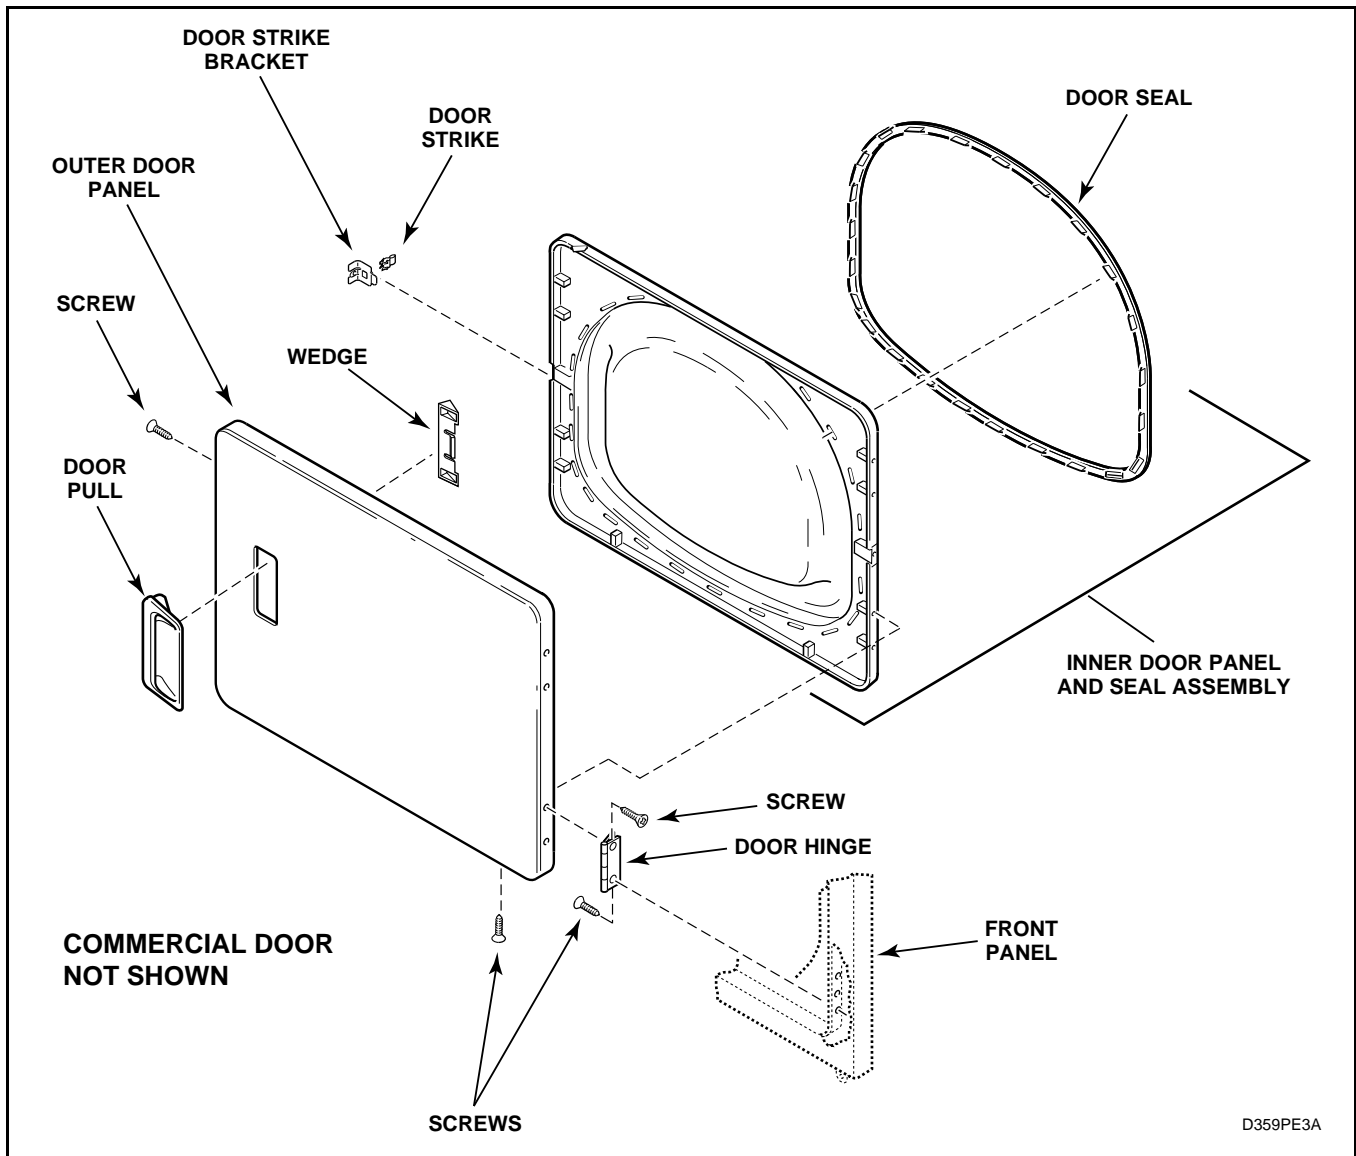

Figure 8
c. Remove wedge (located behind door pull) by carefully prying up on center of wedge. See *Figure 8*.
d. Remove door pull. See *Figure 8*.